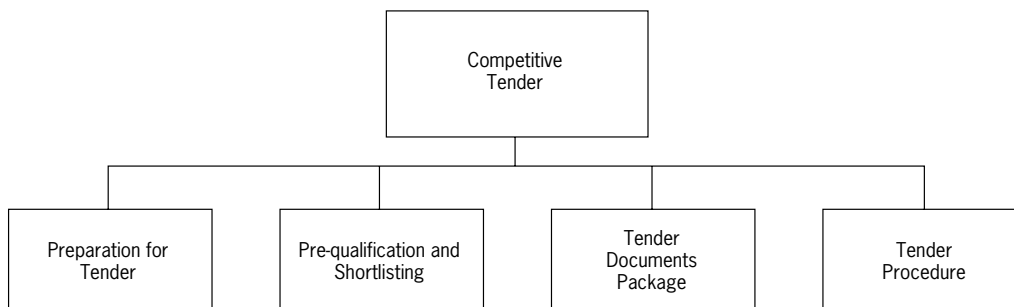

Figure 102 Product Breakdown Structure: Levels 1 and 2 only
1. Create a Product Breakdown Structure, as you would normally do when using PRINCE[®] as in Figure 102, where the example will be a procurement project.